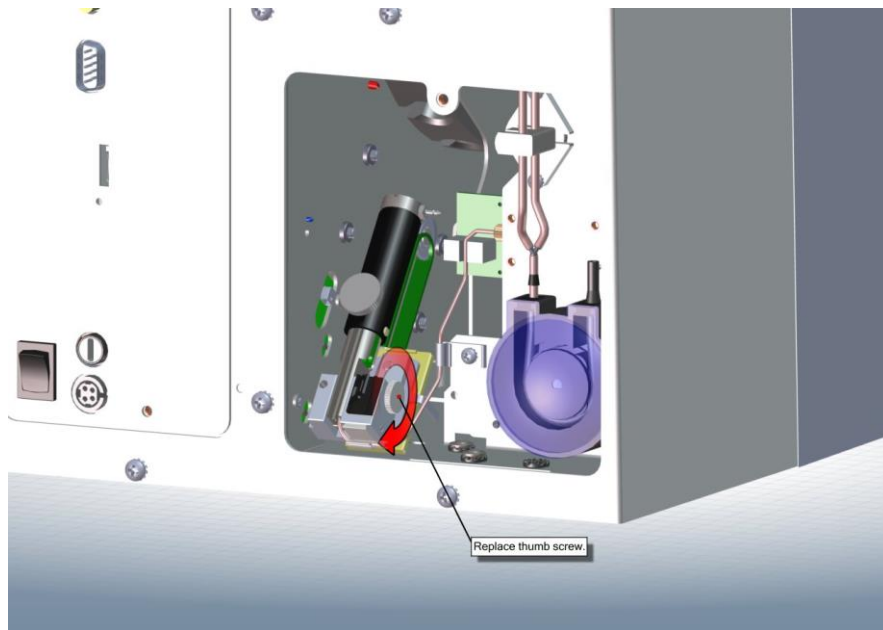

Figure 18
- 14) Replace the long black Thumb Screw. Tighten screw completely. Verify Needle Piston Assembly is locked in position and cannot pivot outwards (Figure 18).